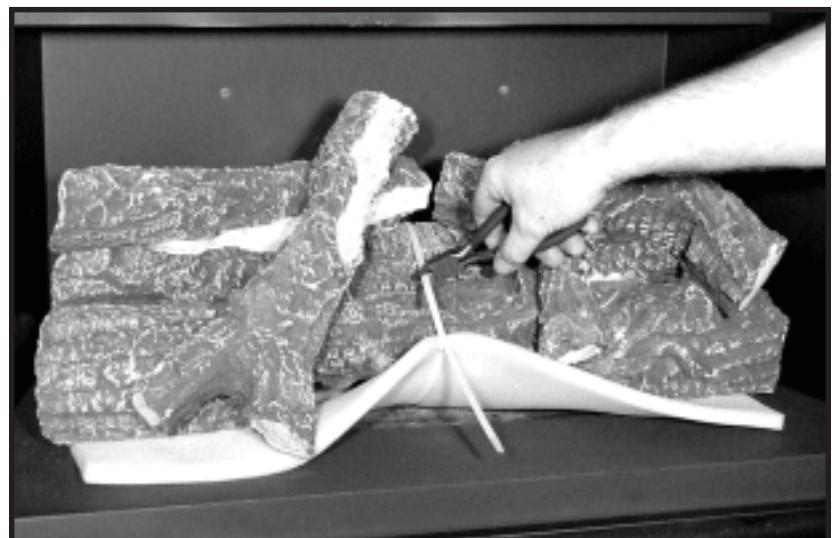

Figure 35
Figure 35 shows the minimum vertical and corresponding maximum horizontal dimensions of fireplace mantels or other combustible projections above the top front edge of the fireplace. See Figures 2 and 3 for other fireplace clearances.
2. Carefully cut the cable tie holding the log assembly in place and discard the tie. Do not leave any part of the tie in the fireplace (see Figure 35).